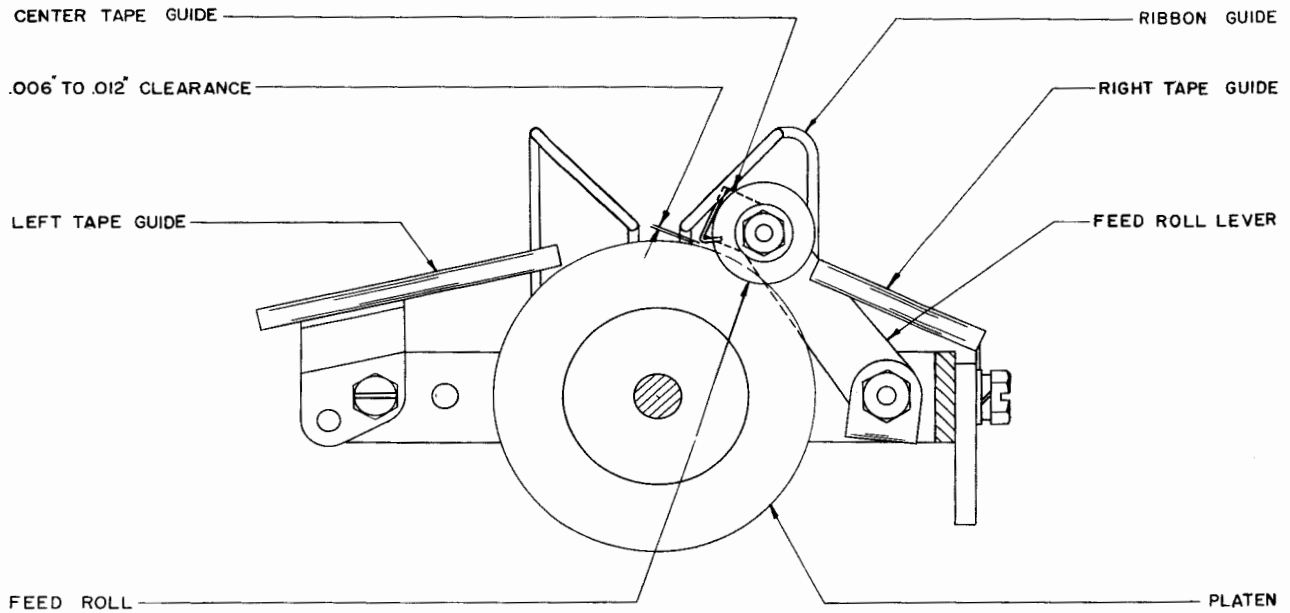

Figure 23
(a) When a piece of tape is inserted through both tape guides, it should align with the platen, and the printing should be in the center of the tape. (See Figure 23.)
- 9.03 Center Tape Guide: The center tape guide should clear the platen by 0.006 inch to 0.012 inch when the feed roll is resting on the platen. (See Figure 23.)